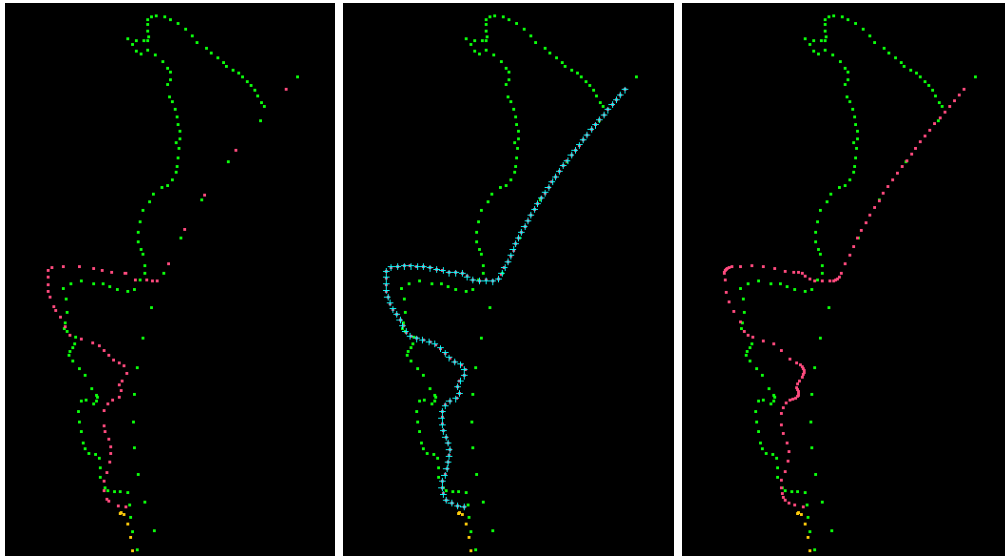

Figure 12. Left to right: original distribution; uniformly discretized to 100 points; discretized by curvature.
- Select element\_001 as the current object, and zoom in on the area at the leading edge of the airfoil (Figure 12). Select indices 1 and 56 as the endpoints of the subcurve by using the **Boundary→Choose Subcurve** menu selection.
- Make the changes permanent, or discard the changes the same way you did in the *Tanh Redistribution* window. Figure 12 illustrates these changes from rediscrretization.